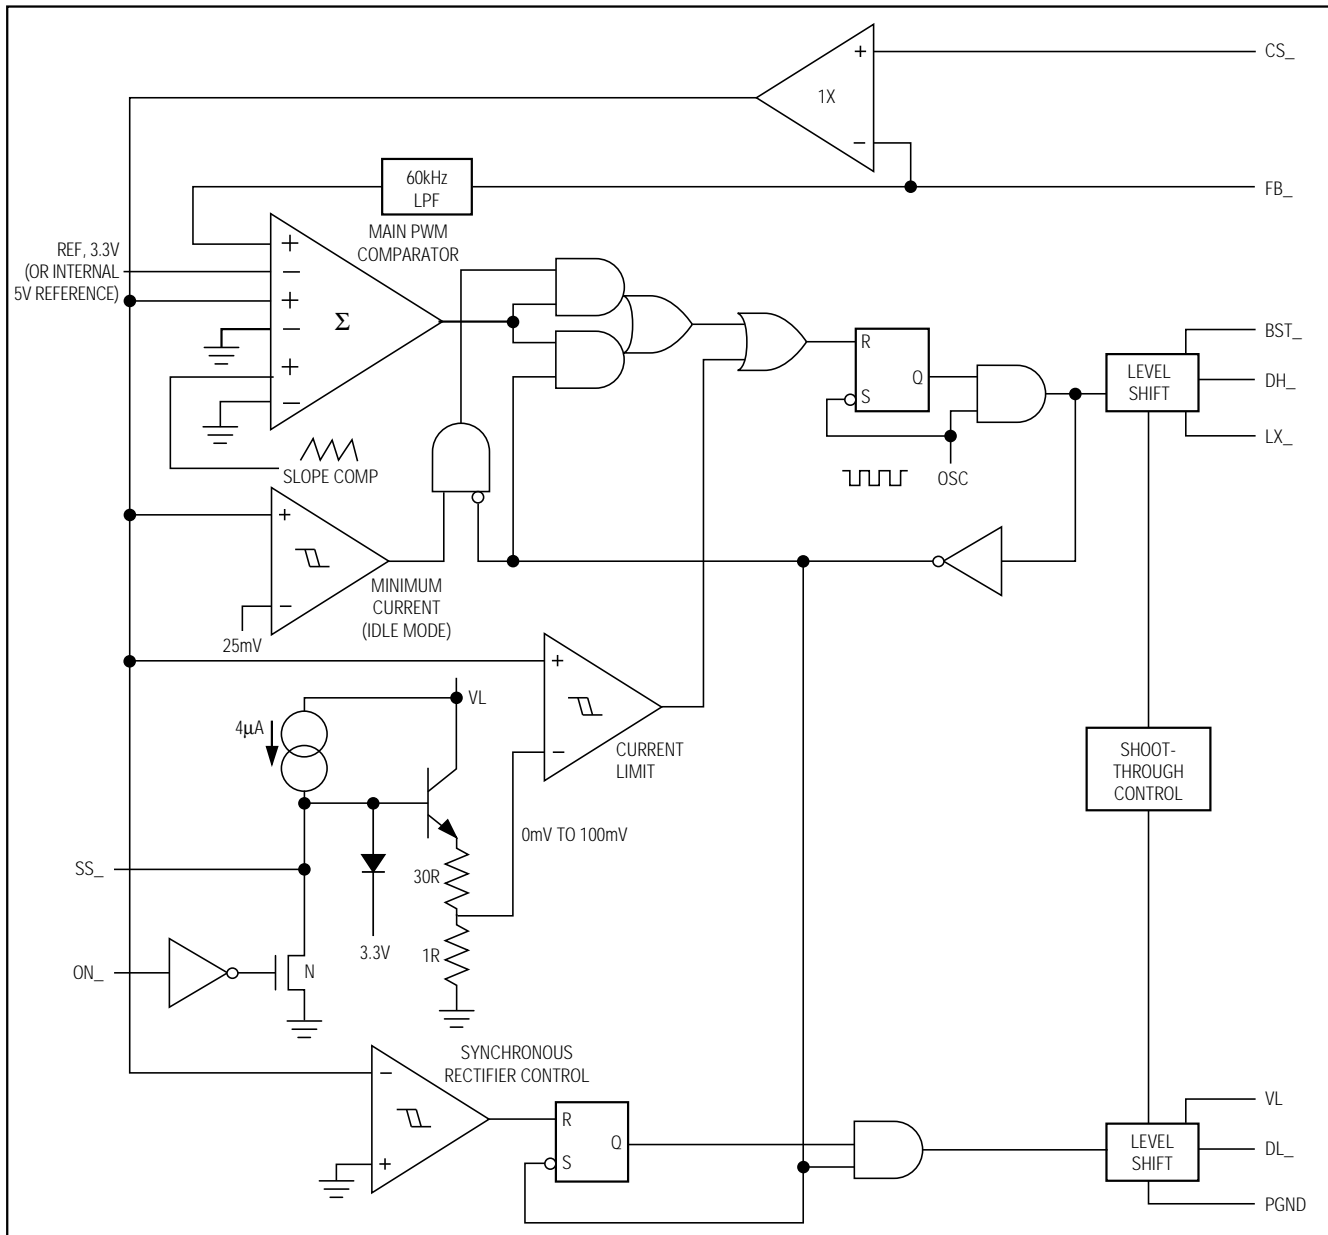

Figure 3. PWM Controller Block Diagram
The two current-mode PWM controllers are identical except for different preset output voltages (Figure 3). Each PWM is independent except for being synchronized to a master oscillator and sharing a common reference (REF) and logic supply (VL). Each PWM can be turned on and off separately via ON3 and ON5. The PWMs are a direct-summing type, lacking a traditional integrator error amplifier and the phase shift associated with it. They therefore do not require any external feedback compensation components if the filter capacitor ESR guidelines given in the *Design Procedure* are followed.